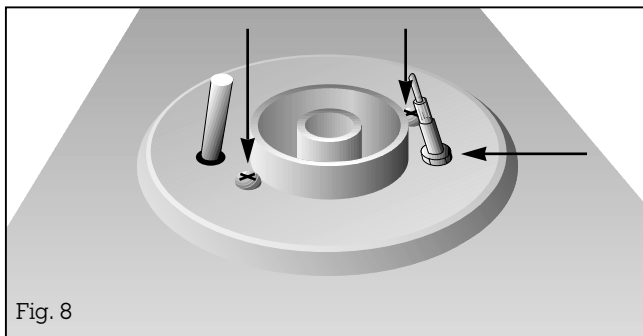

Fig. 8
- Undo the securing nut (SW 11) of the thermocouple and the two securing screws that become visible under the detached burner head (Fig. 8).